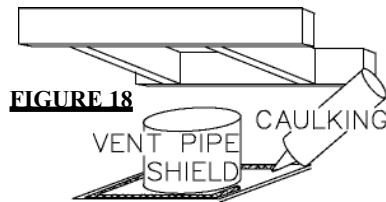

FIGURE 18
2. Apply a bead of caulking (not supplied) to the framework or to the Wolf Steel vent pipe shield plate or equivalent (in the case of a finished ceiling), and secure over the opening in the ceiling. **FIGURE 18.** A firestop must be placed on the bottom of each framed opening in a roof or ceiling that the venting system passes through. Apply a bead of caulking all around and place a firestop spacer over the vent shield to restrict cold air from being drawn into the room or around the fireplace. Ensure that both spacer and shield maintain the required clearance to combustibles. Once the vent pipe / liner is installed in its final position, apply sealant W573-0002 (not supplied) between the vent pipe and the firestop spacer.